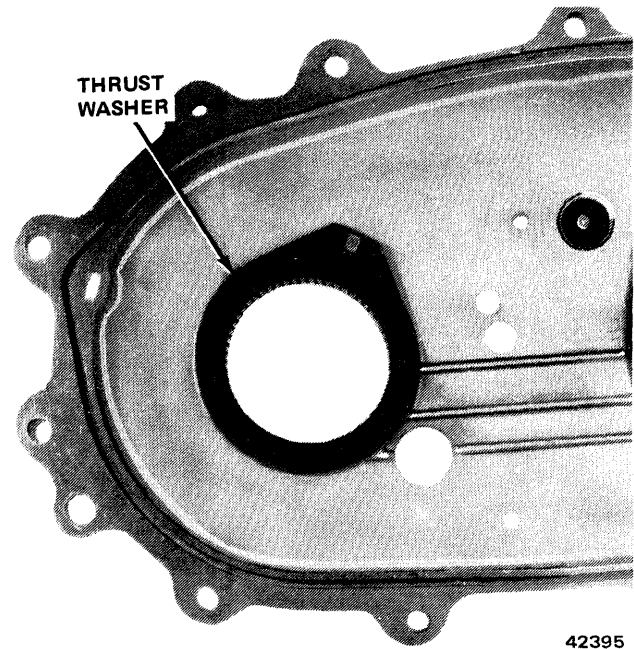
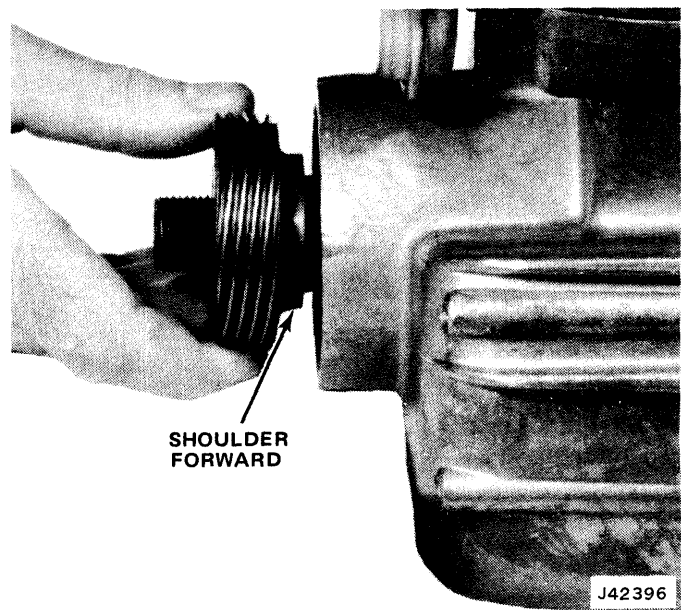

Fig. 8-44 Drive Sprocket Thrust Washer in Position on Case Cover
Fig. 8-45 Installing Speedometer Drive Gear
(4) Insert rear output shaft into differential.
(5) Move lockup hub rearward in case cover. Lubricate drive sprocket thrust washer with petroleum jelly and position on case cover (fig. 8-44).
(6) Align and position case cover on drive sprocket and differential. Output shaft may require slight rotation to align with lockup hub. Be sure drive sprocket thrust washer is not displaced.
(7) If equipped with reduction unit, install pinion cage on drive sprocket rear splines. Be sure snap ring seats completely in groove.
(8) If not equipped with reduction unit, assemble drive hub, drive sleeve, and snap ring, and install on drive sprocket rear splines. Be sure snap ring seats completely in groove.
(9) Rotate drive sleeve or pinion cage to be sure drive sprocket thrust washer did not become mispositioned. Unit must turn easily without binding.
(10) If not equipped with reduction unit, install power takeoff sealing ring and cover. Tighten attaching screws to 20 foot-pounds torque.
(11) Install speedometer gear on rear output shaft (fig. 8-45).